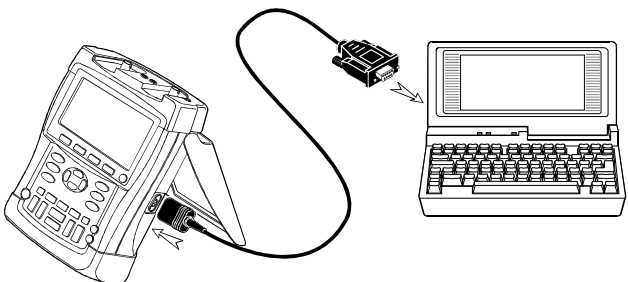

Figure 35. Connecting a Computer
- Use the Optically Isolated RS-232 Adapter/Cable (PM9080) to connect a computer to the OPTICAL PORT of the test tool. (See Figure 35.)